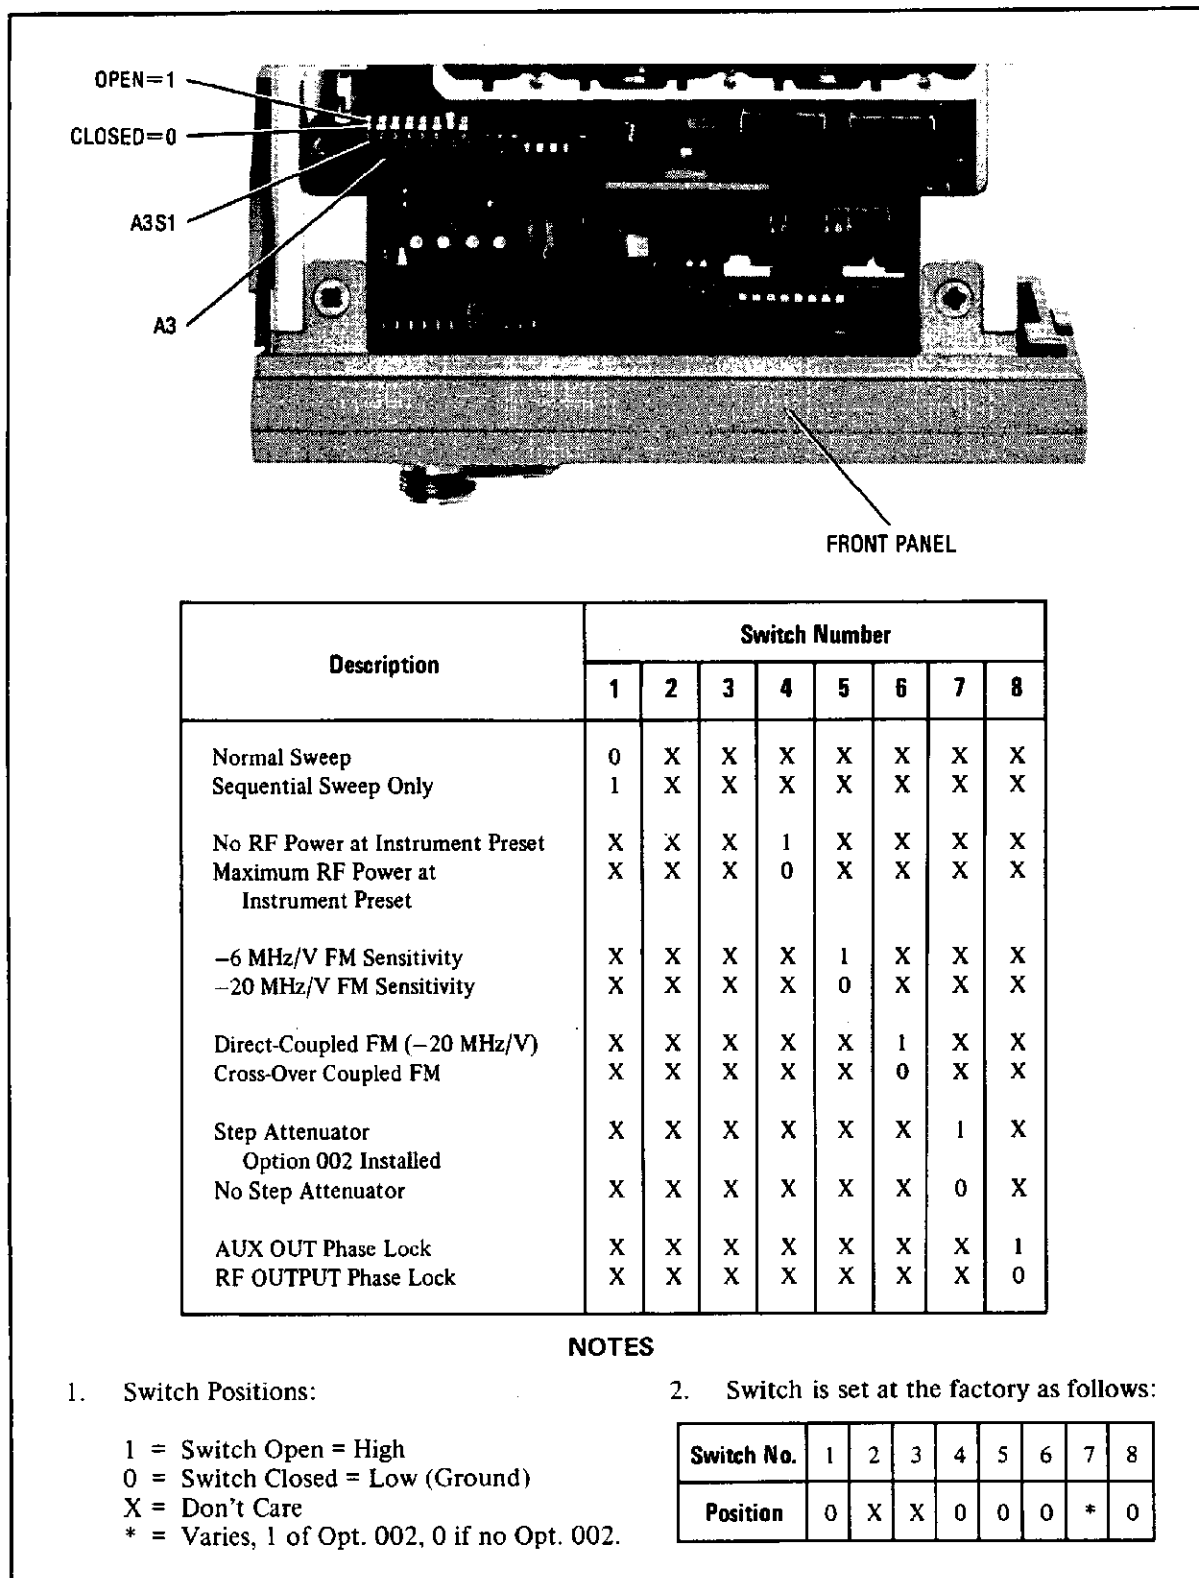

Figure 3-8. Configuration Switch
1. Set the Model 83592C Configuration Switch (A3S1) for an FM Sensitivity of  $-6$  MHz/V, Cross-Over Coupled FM, and front panel RF OUTPUT Phaselock (See Figure 3-8 for specific settings of A3S1).
3-29. The RF power set at power-up (during Instrument Preset) may be either 4 dBm or RF power OFF as selected by the configuration switch (A3S1). Refer to Figure 3-8 for this setting. Configuration switch settings relating to the specific model Plug-In used and Option 002 Step Attenuator equipped instruments must be set prior to operation. Configuration switch number 7 is set at the factory and should not be changed.
3-36. The RF output signal of the Model 83592C can be phase-locked to a specified CW frequency using the HP 5344S Option 043 Microwave Source Synchronizer. The Model 83592C signal is automatically tuned by the HP 5344S. Alternatively the Model 83592C signal can be phase-locked to an external reference oscillator. In either case, the phase-lock signal is applied to the Model 8350A/B rear panel FM INPUT connector. The phase-lock function provides a means of obtaining a very stable CW signal by transferring the frequency stability of the HP 5344S Source Synchronizer or the reference oscillator to the Model 8350A/B and eliminating frequency drift. The Model 83592C CW frequency used for phase-locking may be either the RF output or the fundamental oscillator frequency available at the rear panel AUX OUTPUT. However, use of the front panel RF output requires a broadband coupling device. Therefore it is preferable to use the rear panel AUX OUTPUT for phase-locking. Configuration Switch A3S1 switch position 8 must be set according to which Model 83592C output signal is used as the CW source for phase-locking (see Figure 3-8). The CW filter should be turned off in phase-lock operation. Figure 3-7 shows an example of phase-locking the Model 83592C front panel RF output signal using the HP 5344S Source Synchronizer and the HP 11691D 2 to 18 GHz Directional Coupler.